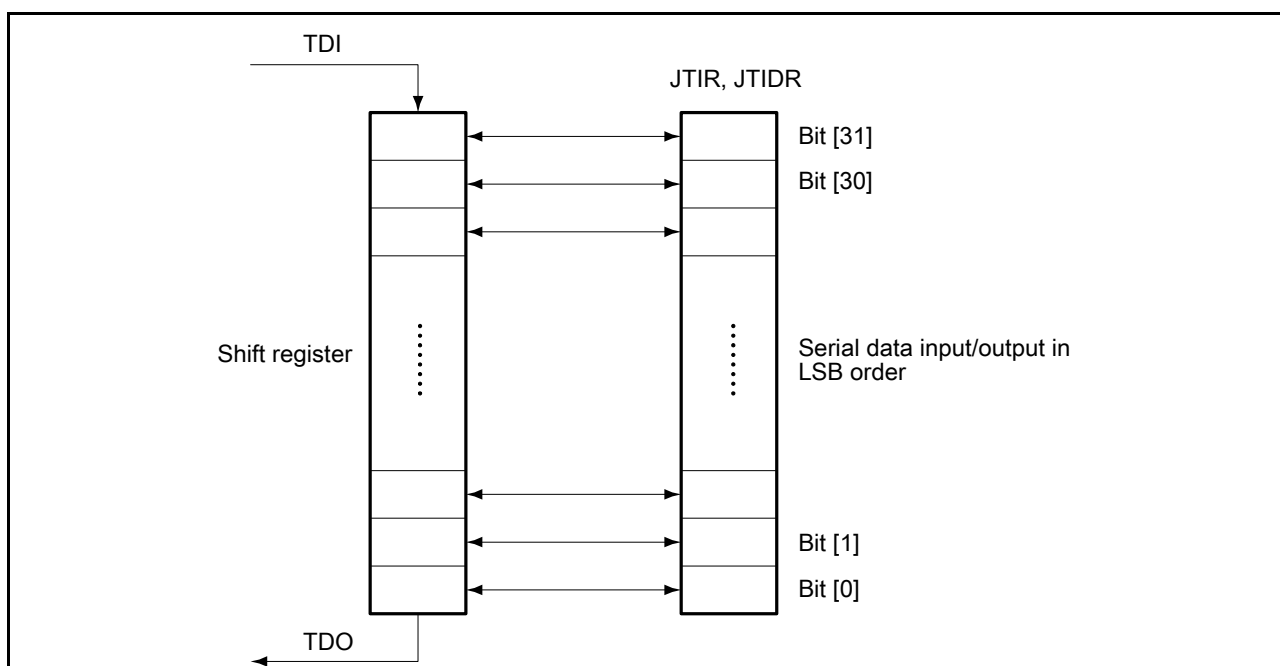

Figure 33.3 Serial data input/output
- Serial data input/output is in LSB order, as shown in Figure 33.3.